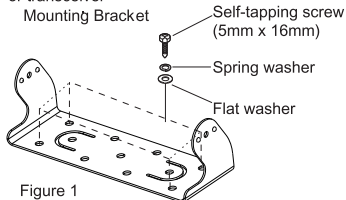

Figure 1
Install the mounting bracket in the vehicle using the supplied self-tapping screws (4), flat washers (4), and spring washers (4). Position the bracket so that the 3 long screw hole positions on the side of the mounting bracket are towards the rear of the bracket. (Figure 1)